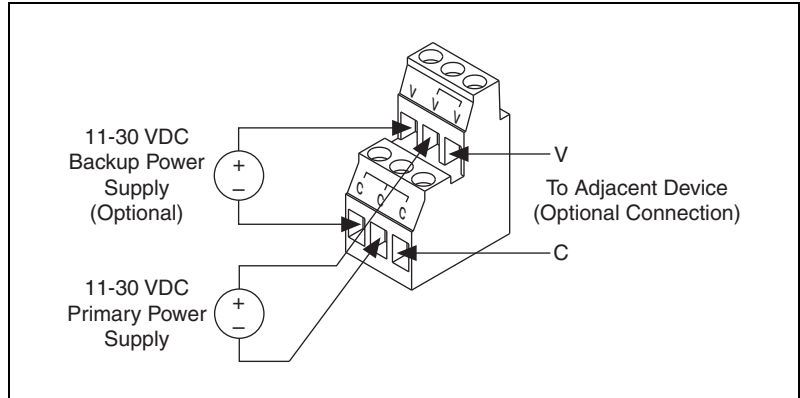

Figure 2-13. FBUS-HSE/H1 Power Connector Pinout
7. Connect the primary 11–30 VDC power supply to the center V and C pair with the positive and negative wires on your power cable in the V and C terminals, respectively. You can connect an optional backup power supply to the left V and C pair. The power connector is a 6-pin screw terminal power connector whose pinout is shown in Figure 2-13.